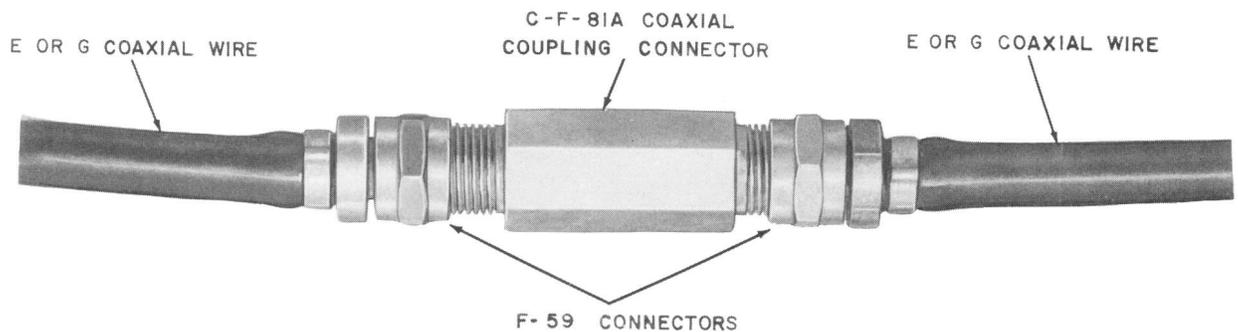

Fig. 22—F-59 Connector Secured to Coaxial Coupling
(b) Cable connector F-59 (Fig. 22) is placed on the ends of the E or G coaxial wire for connecting the E or G coaxial wire to the coupling.
13.03 Secure the F-59 cable connectors to the coaxial coupling connector. (Fig. 22.)